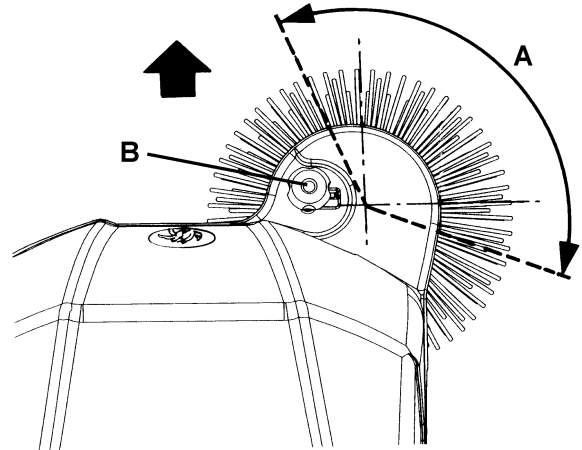

Figure 9
- Check that the side broom print is as shown in the figure (A, Fig. 9). If the print is not within the specifications, adjust the side broom height as shown in the following steps.
2. Turn the knob (B, Fig. 9) clockwise and counter-clockwise to adjust the side broom height.